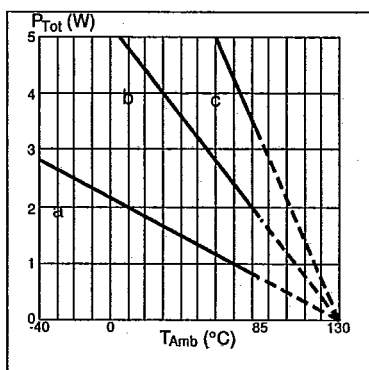

Figure 13. Allowable power dissipation vs. ambient temperature:
- The ambient temperature sets the maximum allowable power dissipation in the driver, which relates to the driver current. For PBD 3545/1, without any measures taken to reduce the chip temperature via heatsinks, the allowable power dissipation vs. temperature follows curve "a" in figure 13.